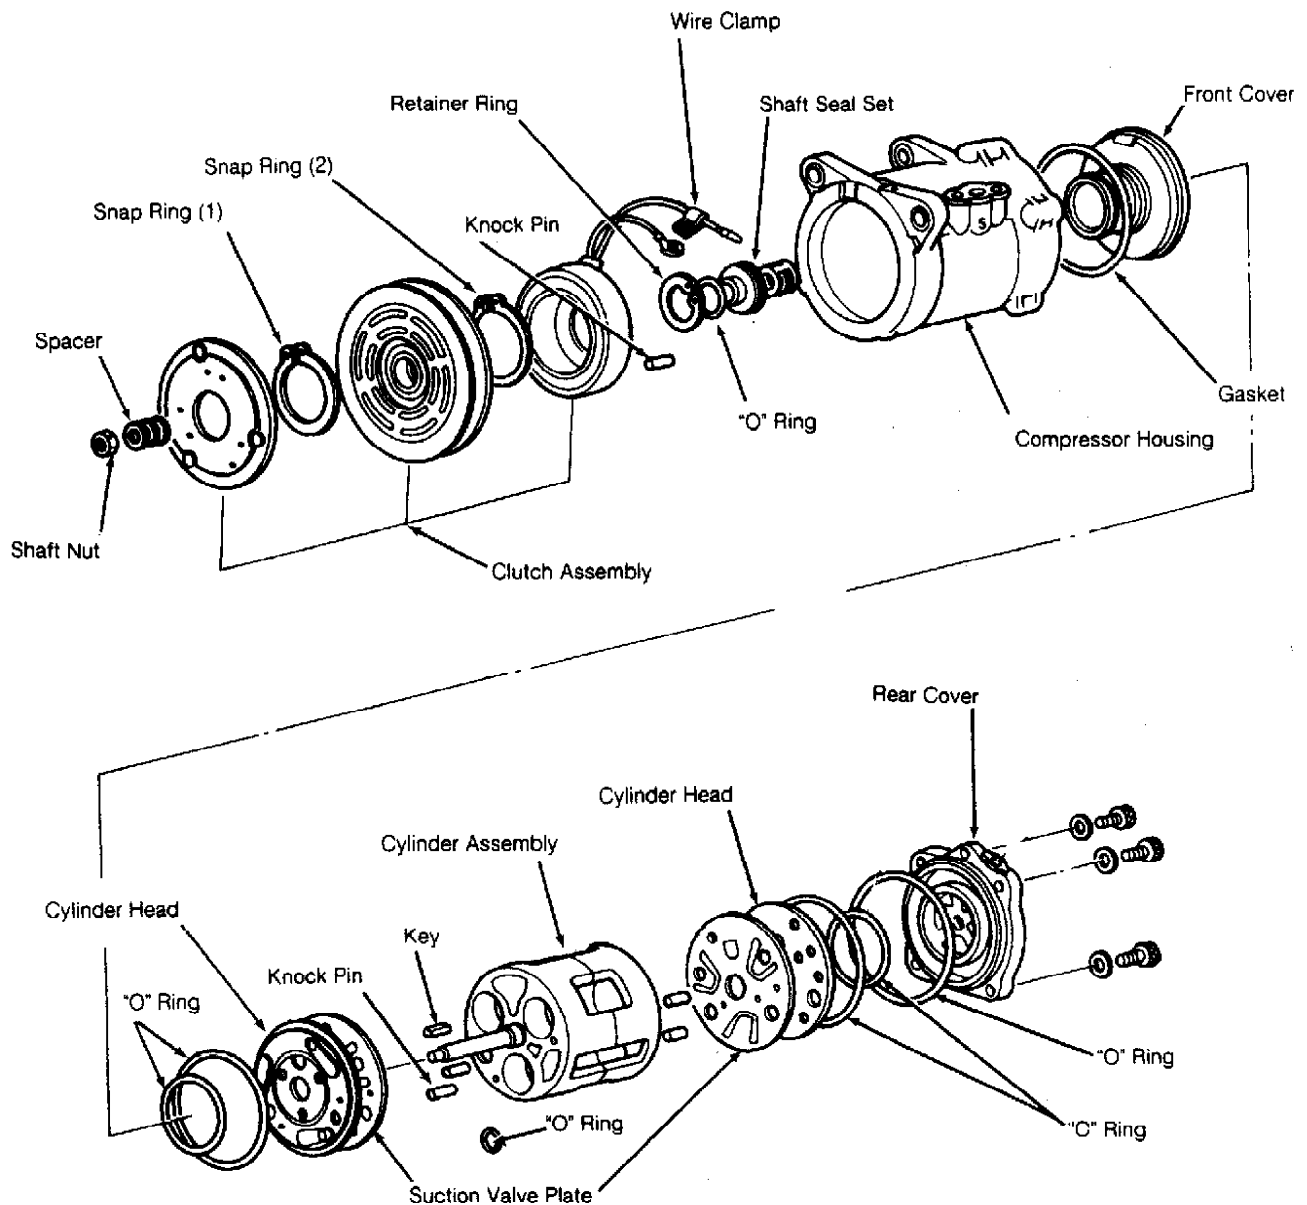

Fig. 7: Hitachi 6-Cylinder Compressor (5-Cylinder Similar)
3) Remove clamping screws that secure coil assembly leads. Remove inner snap ring from coil assembly. Remove coil assembly from front cover. See Fig. 7.